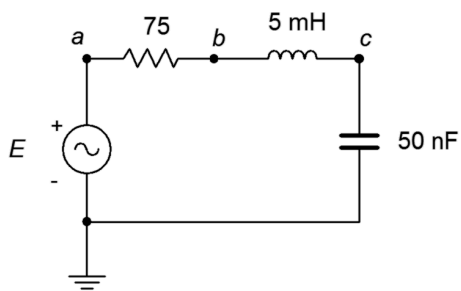

Figure 8.1
13. For the circuit shown in Figure 8.1, determine the resonant frequency, system Q and bandwidth. Assume $R_{coil} = 0\ \Omega$. If the source is $1\ \text{volt}$ peak, determine the capacitor voltage at resonance.